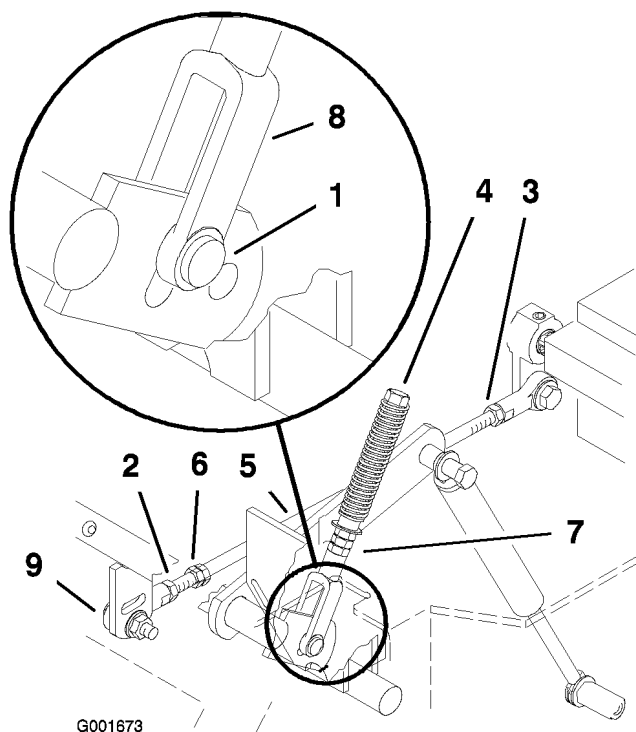

Figure 50
6. Pull the lever back until the clevis pin (on the arm below the pivot shaft) contacts the end of the slot (just beginning to put pressure on the spring) (Figure 50).
8. If adjustment is needed, loosen the nut and jam nut against the yoke (Figure 50).
10. Tighten the nut and jam nut (Figure 50).